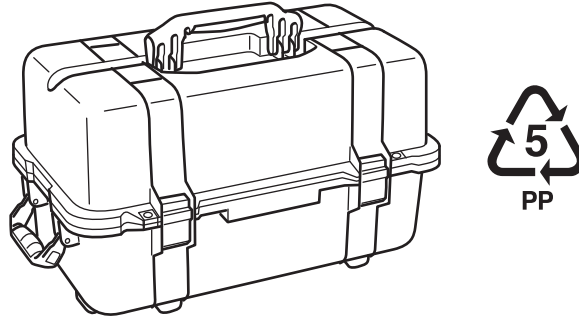

Fig. 1
- 1 Fig. 1 shows a tool box made from plastic and a symbol found on the tool box.